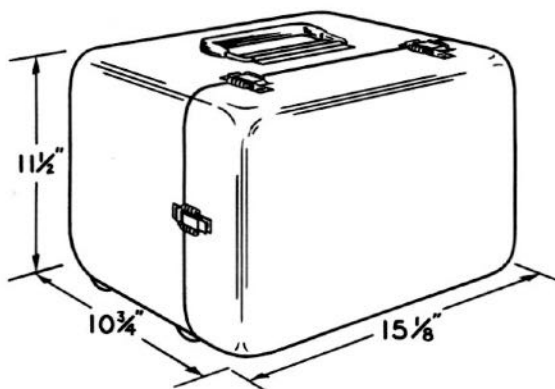

Figure 3-2. RF Signal Generator Set AN/URM-26A, Outline Dimensional Drawing
a. Outline dimensions of the signal generator are shown in Figure 3-2. This is portable test equipment and does not require permanent installation.